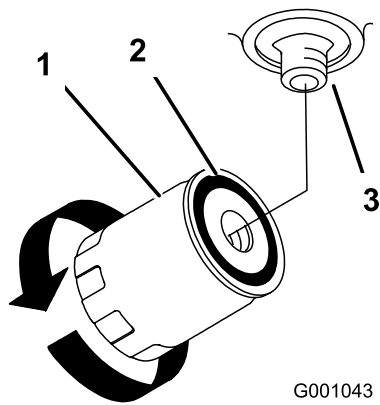

Figure 78
4. Remove the old filter and wipe the filter-adapter gasket surface clean (Figure 78).
7. Turn the oil filter clockwise until the rubber gasket contacts the filter adapter, then tighten the filter an additional 1/2 turn (Figure 78).